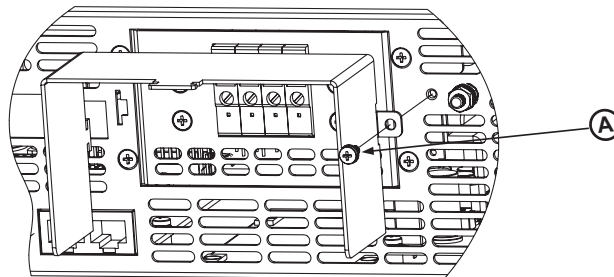

Fig.3-9: Shield assembly
4. Loosen the chassis screw marked "A" halfway as shown in Fig.3-9.
5. Assemble the protective shield to the chassis and tighten the screw to fix the shield to the chassis(see Fig.3-9). Screws tightening torque: 4.8-5.3 Lb-inch.